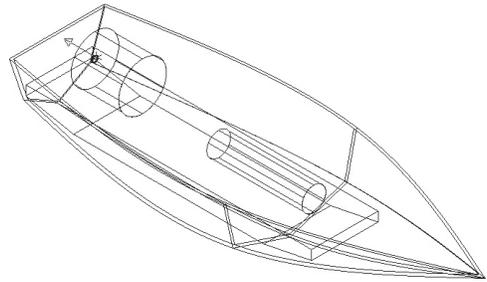

Fig. 18
Step 8. The direction arrow the chain should **point back**, **Fig. 18**. If the arrow points in the wrong direction, click Reverse It.